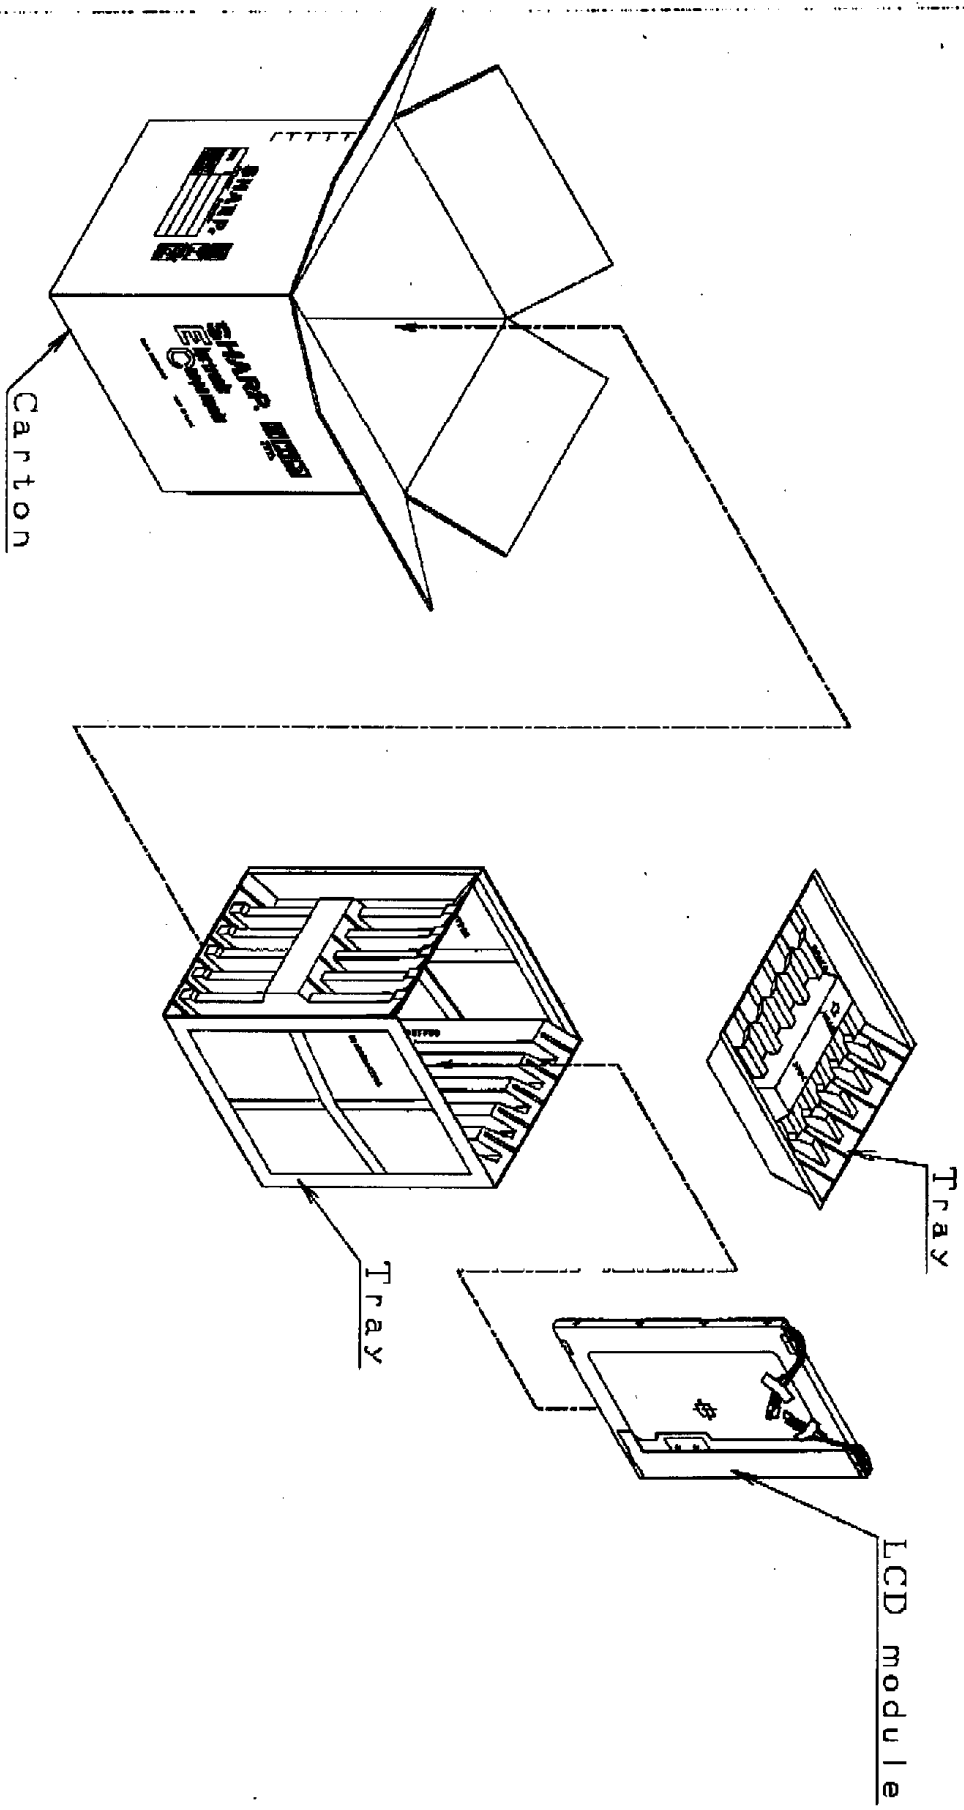

FIG. 3 PACKING FORM
- e) Packing form is shown in Fig.3